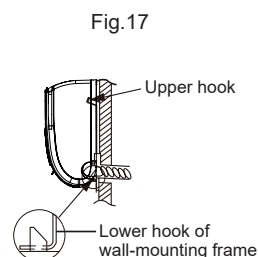

Fig.17
(5) Check if the indoor unit is installed firmly and closed to the wall.(As show in Fig.17)